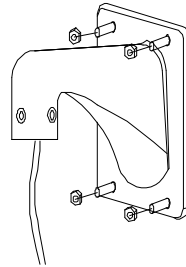

Figure 25
- 8) Take out system control wires from the bracket(Figure 25)